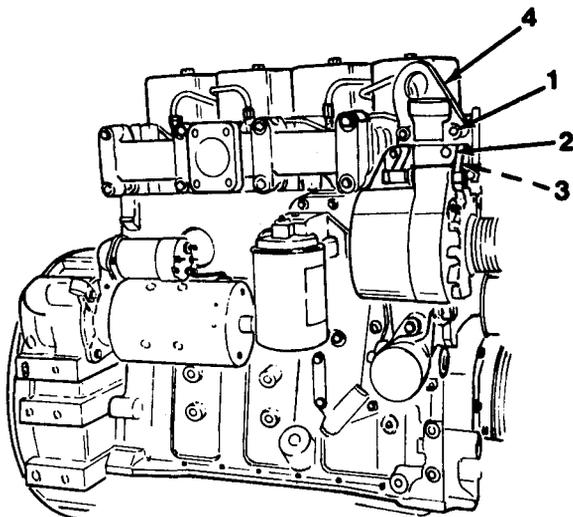

Figure 9-1
- Install lifting bracket (4), gasket (3), thermostat housing (2) and three capscrews (1, Figure 9-1). Torque three capscrews (1) to 18 lb-ft (24 N•m).